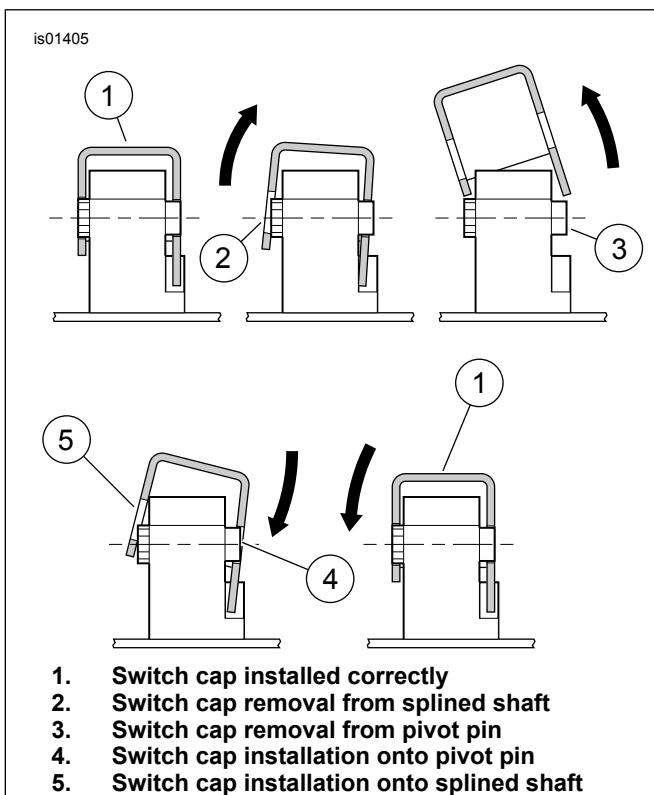
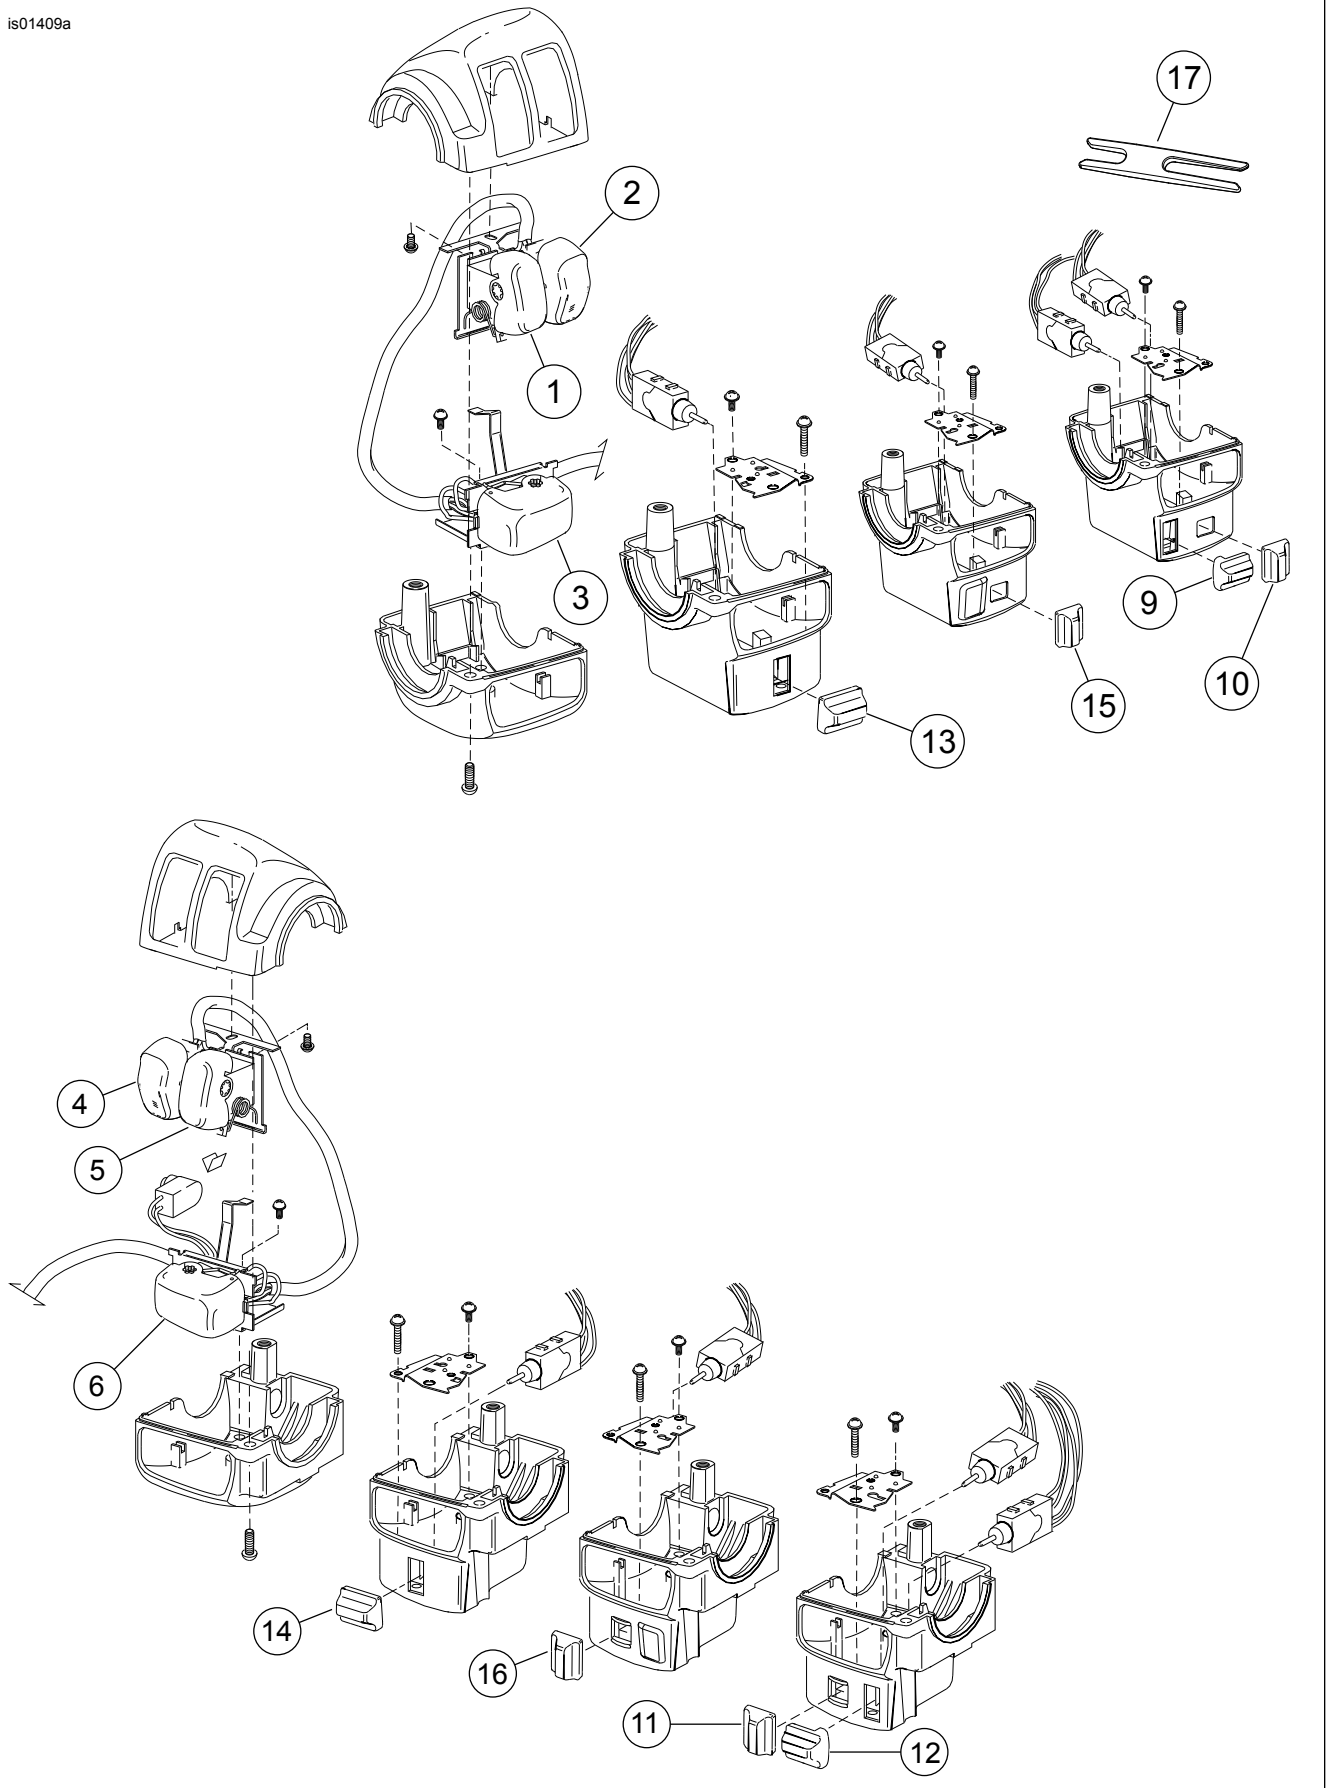

Figure 1. Switch Cap Removal and Replacement
Figure 5. Service Parts: chrome Handlebar Switch Caps
See Figure 5 and Table 2.
2. See Figure 1 and Figure 5. Carefully pry stock black switch cap up off the splined actuator shaft (2) on left side of switch.
3. Pry the switch cap up and away from pivot pin (3) on right side of switch and remove cap.
4. See Figure 5. Select proper chrome replacement switch cap from kit.
5. See Figure 1. Place cap onto switch, angling the hole on right side over pivot pin (4) on switch.
6. Carefully press switch cap down onto splined actuator shaft (5), rocking and moving the cap until shaft snaps into place in splined hole.
1. See Figure 1 and Figure 5. Carefully pry stock black switch cap up off the splined actuator shaft (2) on switch.
2. Pry the switch cap up and away from pivot pin (3) on switch, and remove cap.
4. See Figure 1. Place cap onto switch, angling the hole on top over pivot pin (4) on switch.
5. Carefully press switch cap onto splined actuator shaft (5), rocking and moving the cap until shaft snaps into place in splined hole.
4. See Figure 5. Select proper chrome replacement switch cap from kit, then slide the cap onto the shaft.